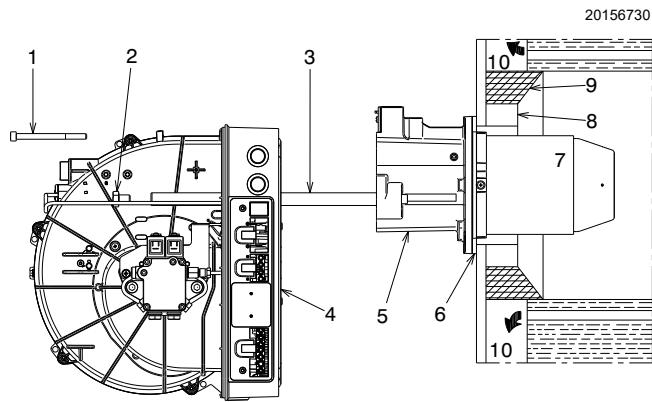

Fig. 10
- Fix the unit 5) and 7)(Fig. 10) to the boiler plate, inserting the insulating gasket 6)(Fig. 10) that was supplied.
- Whenever the nozzle needs changing when the burner is already applied to the boiler, open the burner on the slide bars as in Fig. 10 on page 14 and proceed as described above.
- At this stage of the installation the blast tube and the pipe coupling are secured to the boiler as shown in fig.10 on page 15. Therefore it is easy to adjust the combustion head that depends only on the output of the burner, namely on the flow rate of the nozzle selected in Tab. F on page 15.